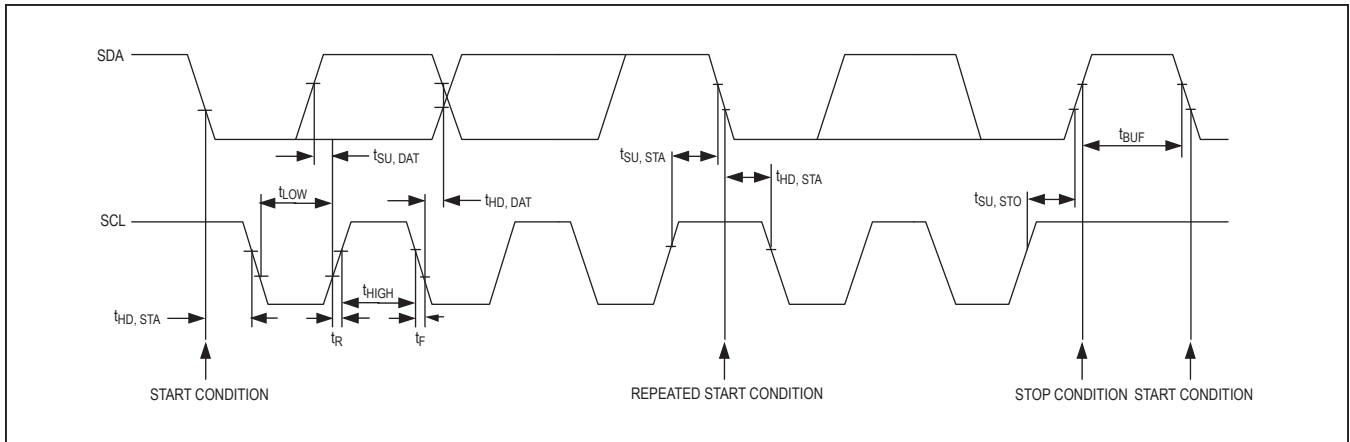

Figure 2. 2-Wire Serial Interface Timing Details
**Timing Characteristics (Figure 2)**(VV+ = 2.5V to 5.5V, TA = TMIN to TMAX, unless otherwise noted.) (Note 1)
**Timing Characteristics (Figure 2) (continued)**
The MAX7300 operates as a slave that sends and receives data through an I2C-compatible 2-wire interface. The interface uses a serial data line (SDA) and a serial clock line (SCL) to achieve bidirectional communication between master(s) and slave(s). A master (typically a microcontroller) initiates all data transfers to and from the MAX7300, and generates the SCL clock that synchronizes the data transfer (Figure 2).